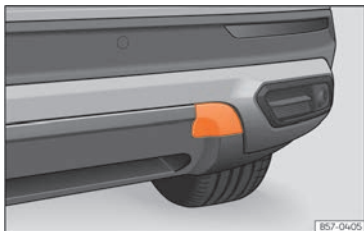

Fig. 47 On the right side of the rear bumper: remove the cover.
The housing of the screw towing eye is on the right side of the rear bumper behind a lid »» Fig. 47.
- Press the upper side of the lid »» Fig. 47 to unclip it.